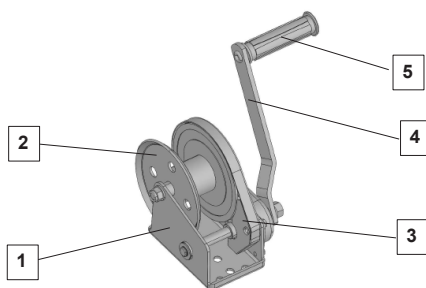

Fig. 1
By acting on the crank (item 4, fig. 1 or item 7, fig. 2), and depending on the direction of rotation indicated (fig. 12), the material load is lifted. If the operator turns the crank in the opposite direction, the material load is lowered. The crank length can be adjusted by means of an adjustment device solely for the caRol Duratech 250 (item 6, fig. 2).
- a structure (item 1, fig. 1 or item 1, fig. 2) on which the caRol Duratech winch is mounted
- a protective casing (item 3, fig. 1 or item 10, fig. 2) protecting the reduction gear against projections and impacts during installation, use, transport and storage of the winch, while